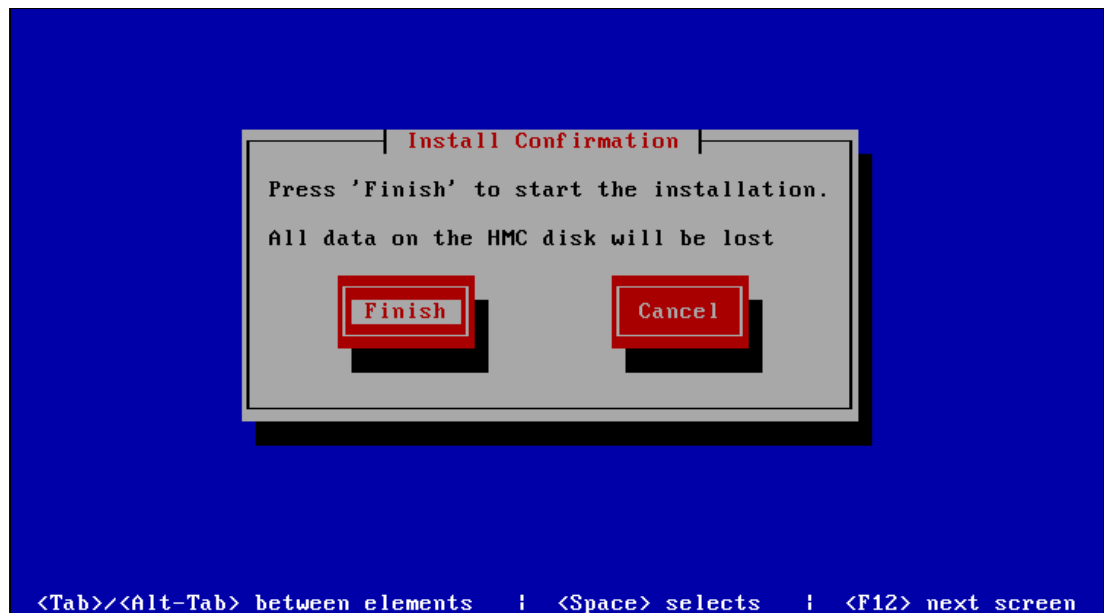

Figure 3-73 Confirm installation
3. Select **Finish** to confirm the installation (Figure 3-73).